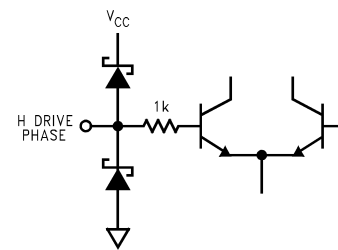

FIGURE 13.
**Pin 24—H DRIVE PHASE:** A DC control voltage applied to this pin sets the phase of the flyback pulse with respect to the leading edge of H sync. See *Figure 13* for the input schematic.